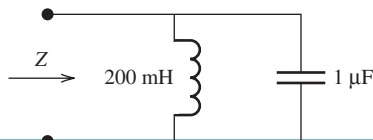

FIGURE P6.22 Circuit for Problem 6.22.
- 6.22 (B) Find Z in Figure P6.22 for $\omega = 200$, $\omega = 800$, and $\omega = 1500$.